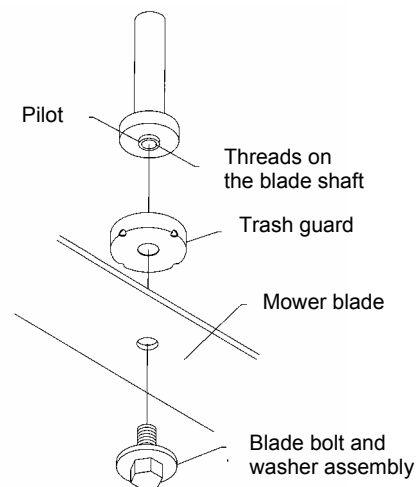

Figure 19. Attaching the blade
7. Loosen and remove the blade bolt and washer assembly; remove the blade (*Figure 19*).